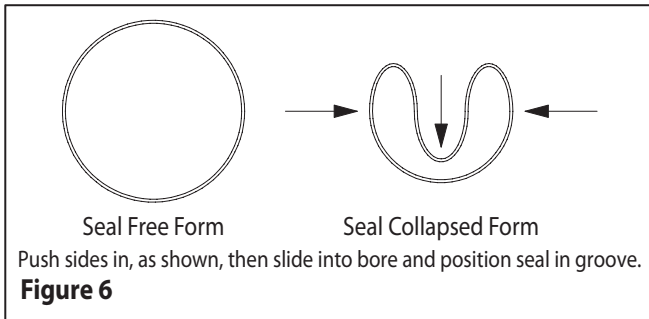

Figure 6
23. Bend the (39) seal in a heart shape and install in the (7) upper gland inside the (38) "O" ring (see figure 6).